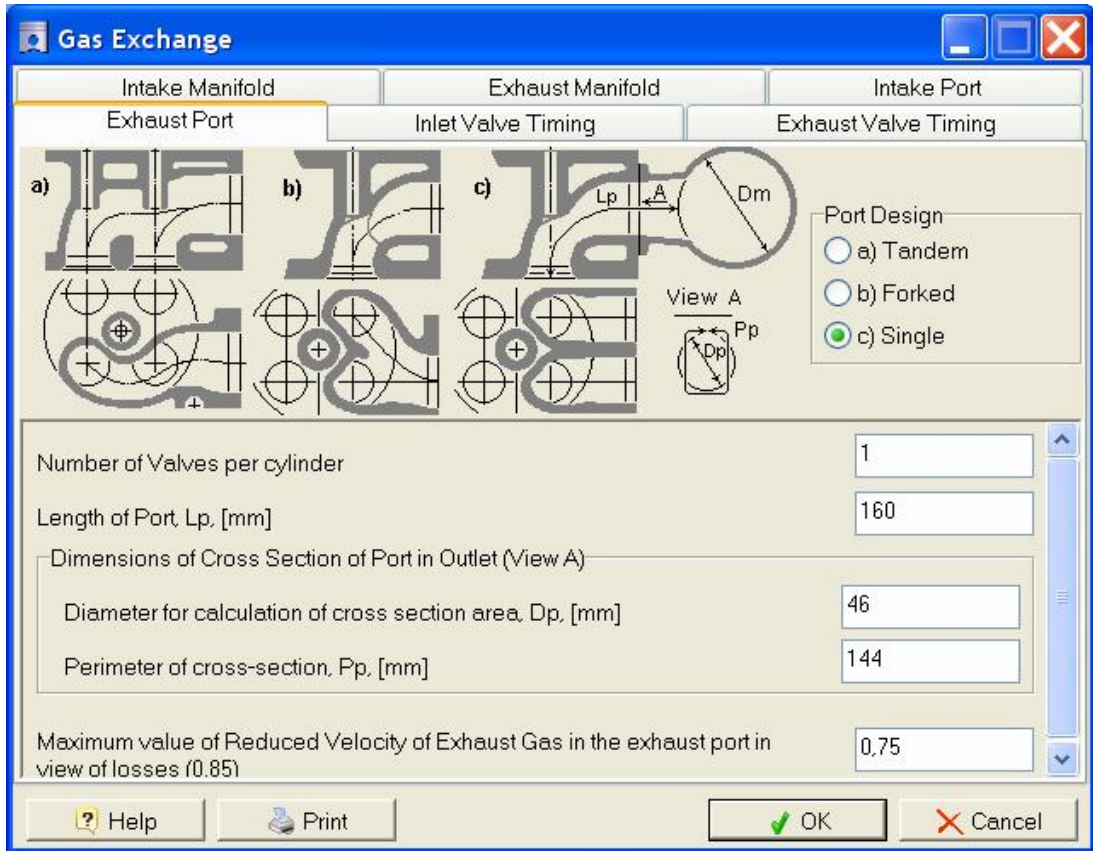

Fig. 6. Engine ports design.
- Number and design of exhaust valves per cylinder (see fig. 6).
- Number and design of intake valves per cylinder (see fig. 6).